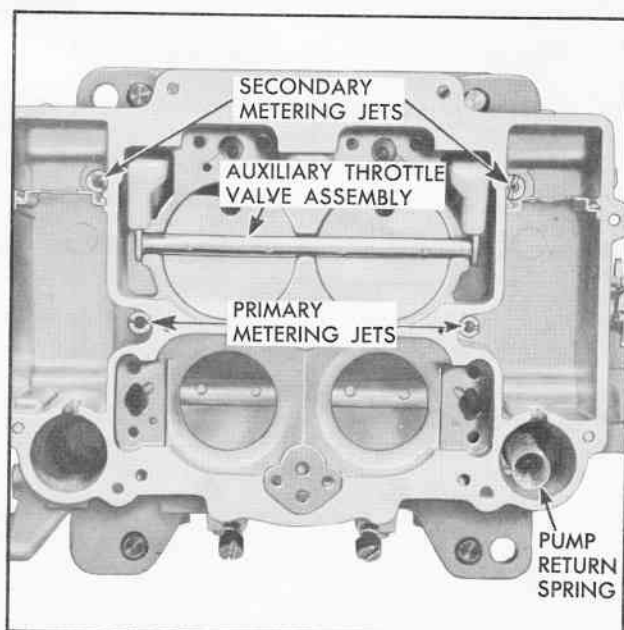

Fig. 13 Body Assembly with Clusters Removed
10. Lift out auxiliary throttle valve, shaft and weight assembly (Fig. 13). If necessary auxiliary throttle valves can be removed from shaft by removing attaching screws.
11. Remove two primary metering jets (Fig. 13).
12. Remove two secondary metering jets (Fig. 13).
13. Remove pump return spring (Fig. 13).
15. Carefully invert carburetor body and remove pump discharge check needle (Fig. 13).